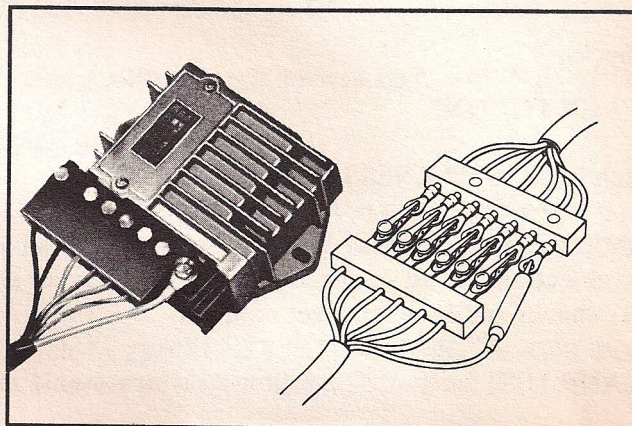

Fig. 2 7-Wire Hook-Up
- 1975-76 Federal 280-Z with 7-wire harness: Attach all seven harness terminals at each end, including the yellow pigtail lead. (See Fig. 2)